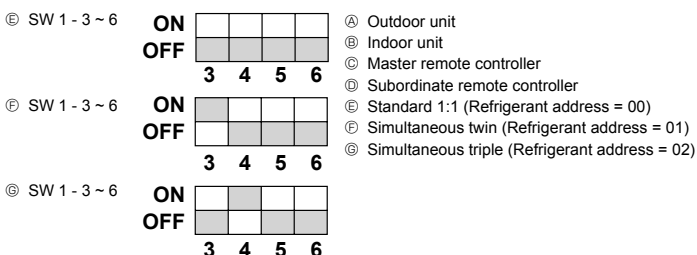

Fig. 9-1
① Supply power (circuit breaker).
② After the gas stop valve is closed, set the SWP switch on the control board of the outdoor unit to ON. The compressor (outdoor unit) and ventilators (indoor and outdoor units) start operating and refrigerant collecting operation begins. LED1 and LED2 on the control board of the outdoor unit are lit.
③ Because the unit automatically stops in about 2 to 3 minutes after the refrigerant collecting operation (LED1 and LED2 are lit), be sure to quickly close the gas stop valve. When LED1 and LED2 are lit and the outdoor unit is stopped, open the liquid stop valve completely, and then repeat step ② after three minutes have passed.
④ Turn off the power supply (circuit breaker).
9. System control (Fig. 9-1)